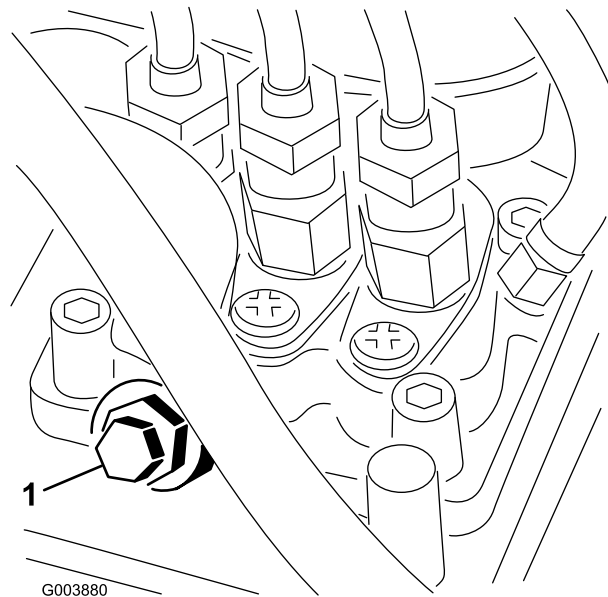

Figure 31
3. Open the air bleed screw on the fuel injection pump (Figure 31) with a 12 mm wrench.